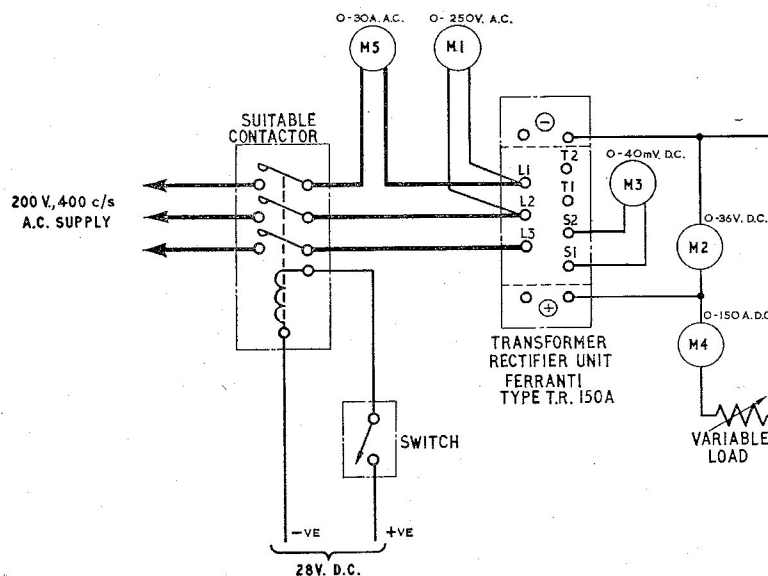

Fig. 1. Test circuit diagram
3. The test equipment should be connected as shown in fig. 1, the supply switched on and the system allowed to stabilize electrically.